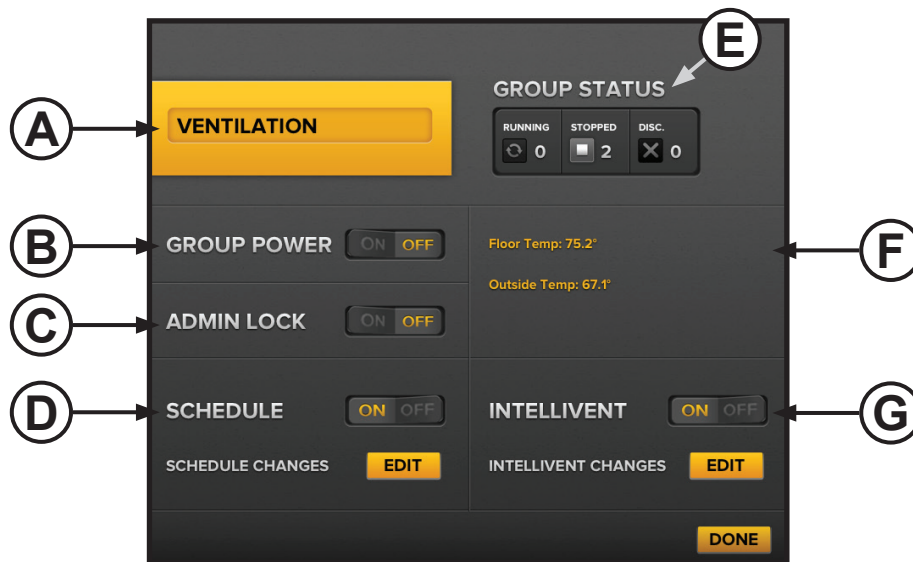

Figure 3—Louver/vent group details page
2. Locate the louver or vent group you want to work with, and then touch the **Detail Page** button for the group. The group details page appears (Figure 3).
3. Adjust the settings as necessary, and then touch **Done**. See Figure 3 below and the following pages for details.